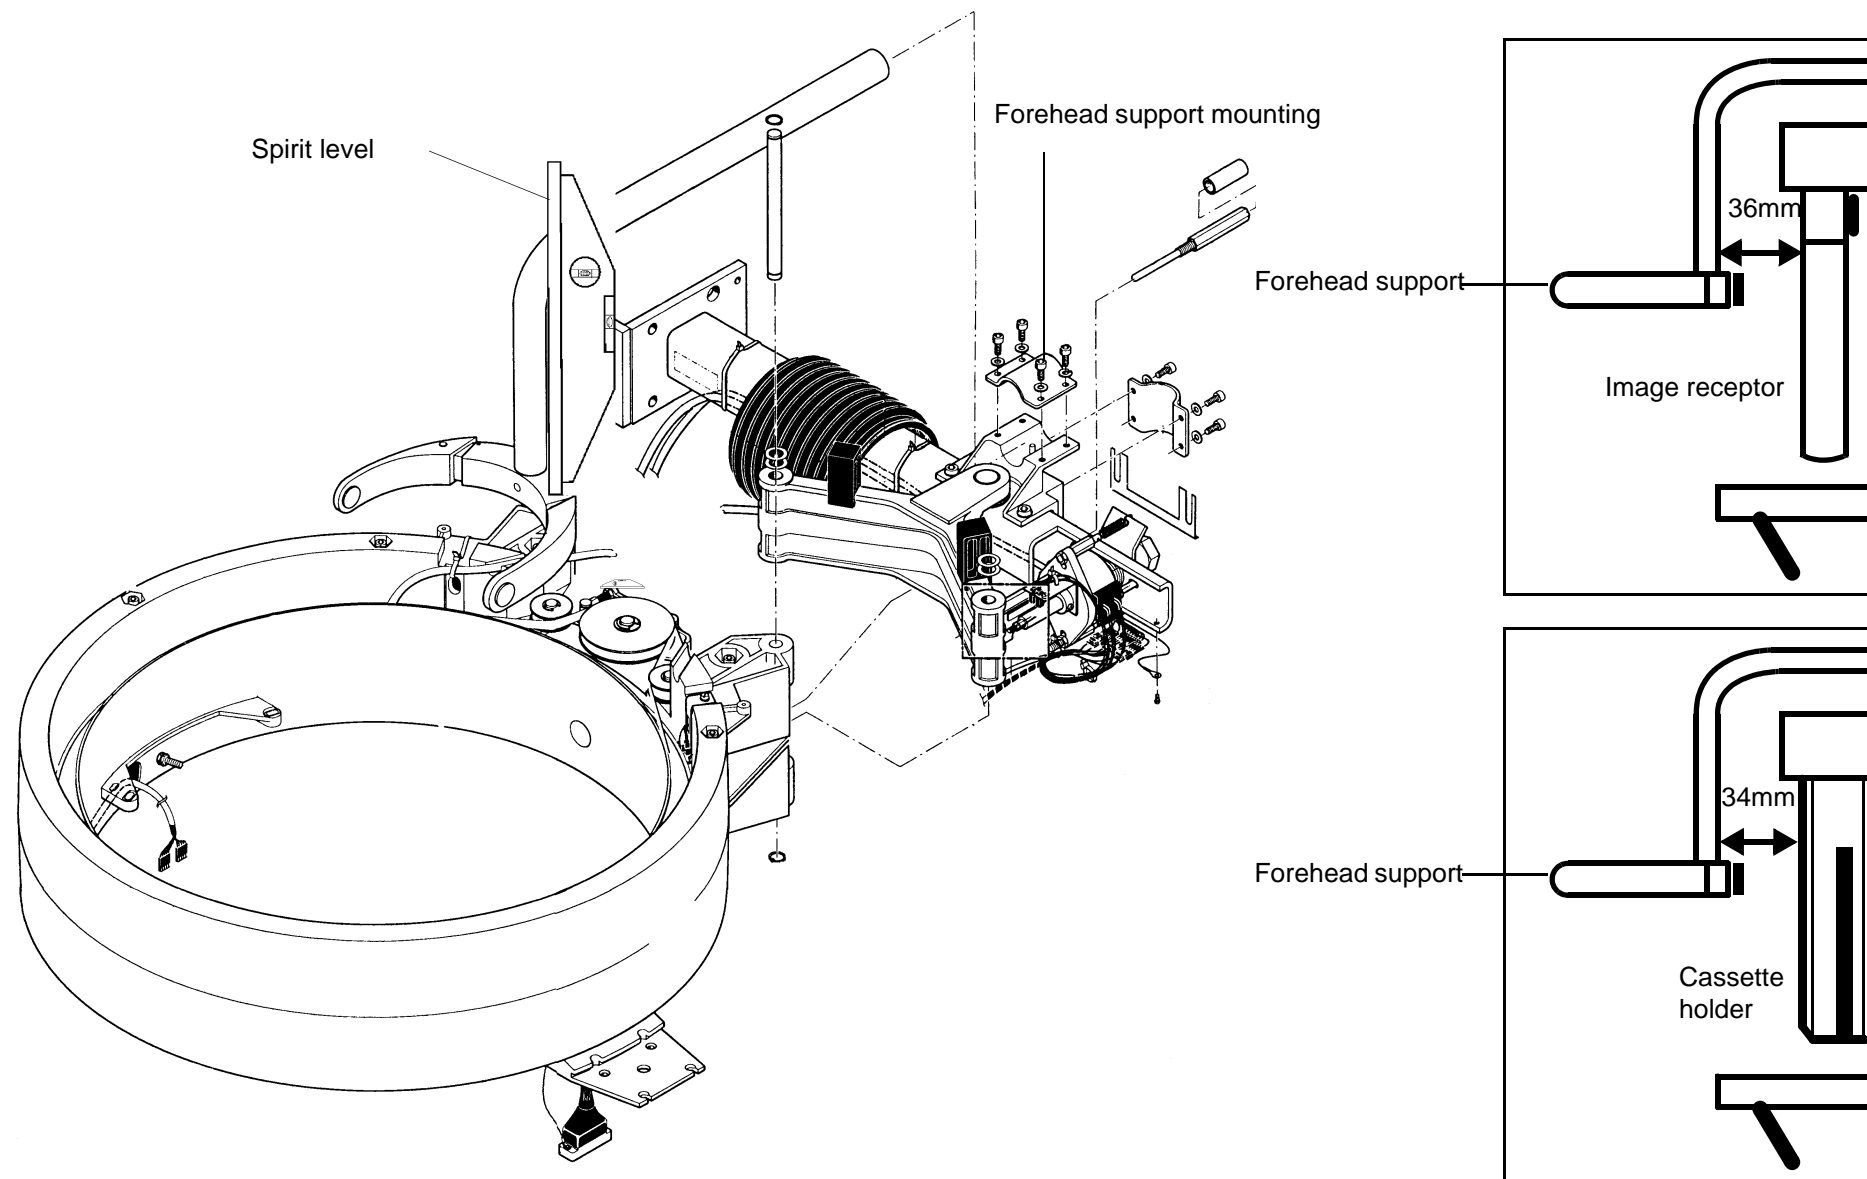

Fig.3: Forehead support
- Place a spirit level against the tube bend of the forehead support. 🖐 See Fig. 3: Forehead support